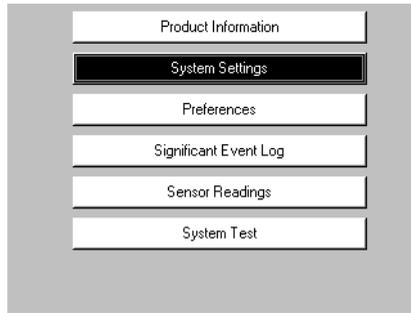

Figure 9: Menu Screen
- Press **ENTER** to continue past the Warning screen. The Menu screen shown in Figure 9 will appear: